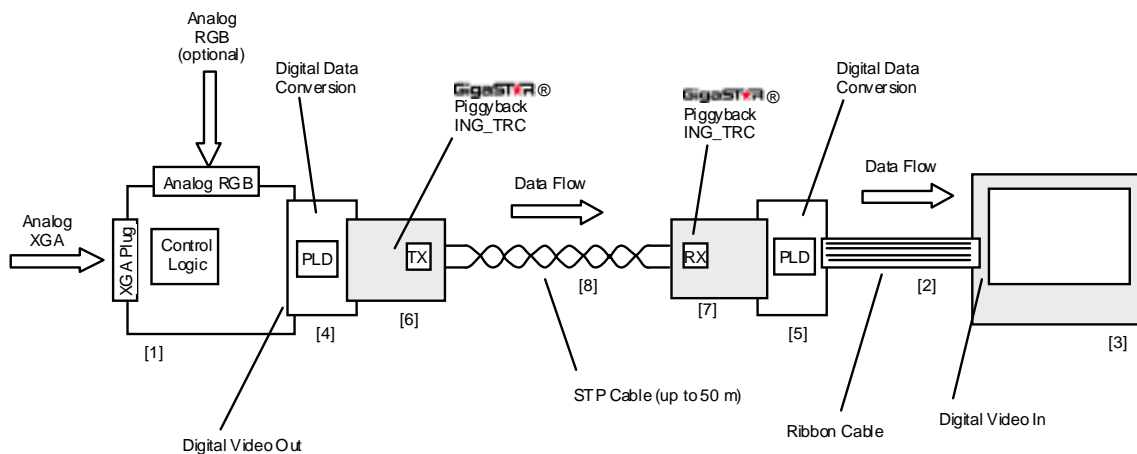

Figure 4: GigaSTaR Display Link with STP Copper Cable
A typical implementation for the GigaSTaR link in combination with an analog / digital converter is shown in Figures 4 and 5. By adopting the link to the digital output of the converter board, the signal can be transmitted over distances of 50 m with shielded twisted pairs (STP) of copper cable (4) or distances of up to 500 m with multimode fiber (5).
The application as described in Figure 4) is realized as “**GigaSTaR Display Kit**” (device title: ING_DK1) also shown on the cover page of this application note.